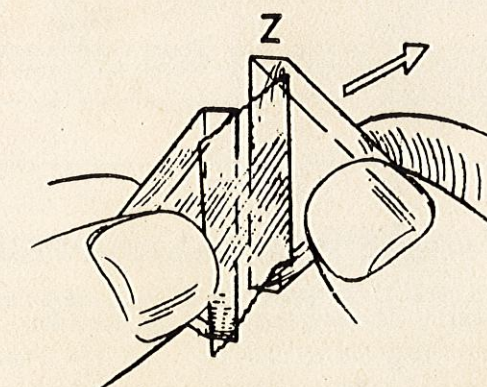

Fig. 3a
14. Peel off tape by pulling at left hand part as shown in fig. 3a.)